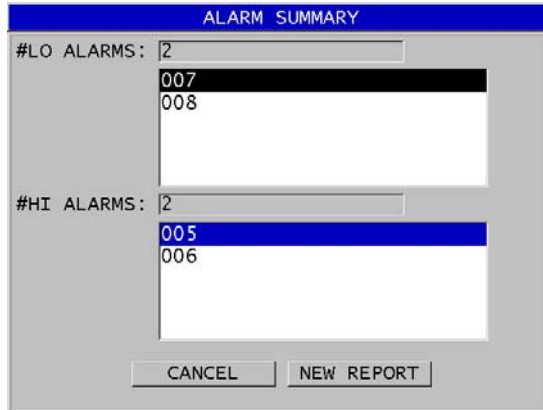

**Figure 11-33 The FILE COMPARISON report screen**
6. In the **FILE COMPARISON** screen (see Figure 11-33 on page 205):